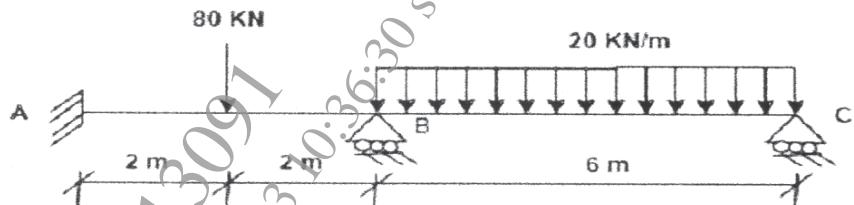

Figure 6
- Q5) a)** Analyze the beam ABC shown in figure 6 by stiffness method and draw BMD. [11]